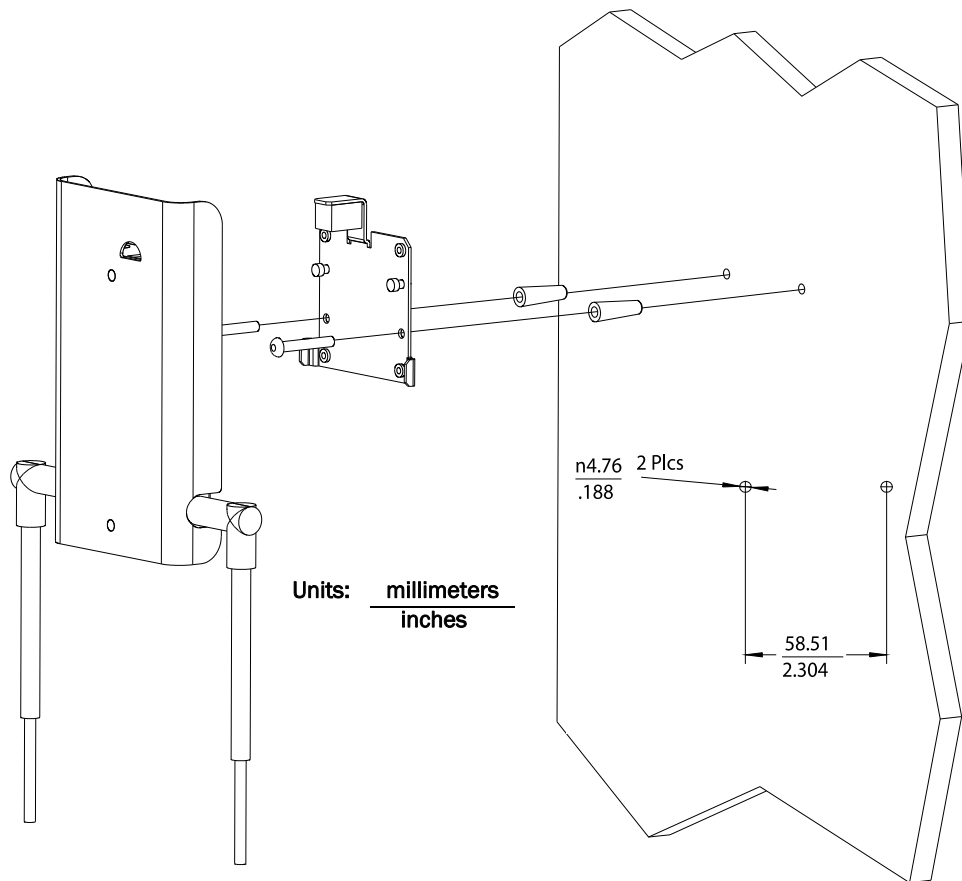

Figure 2-13: Mounting the IntelliVue Smart-hopping 1.4 GHz RA to a Wall (CA Earthquake Rated)
1. Using a 3/16-inch drill bit, drill two pilot holes 0.188 inches (5 mm) in diameter at the locations shown in Figure 2-13.
3. Secure the quick release wall plate to the wall by screwing a supplied #6 x 1 1/4 inch self-tapping screw through the wall plate into each screw anchor (or pilot hole) as shown in Figure 2-13.
4. While holding the RA chassis with its antennas pointing down as shown in Figure 2-13, fit the openings in the back of the RA chassis over the two mounting studs that protrude from the wall plate, and then slide the RA chassis down so that the mounting studs are securely in the grooves in the back of the RA chassis.